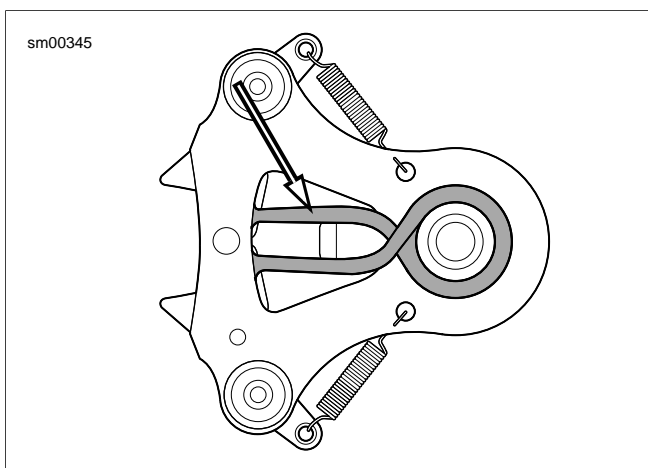

Figure 5-95. Shifter Shaft Return Spring (Correctly Installed)
1. See Figure 5-95. Correctly install shifter return spring onto the reverse side of the shifter shaft assembly before placing shaft in left crankcase half.